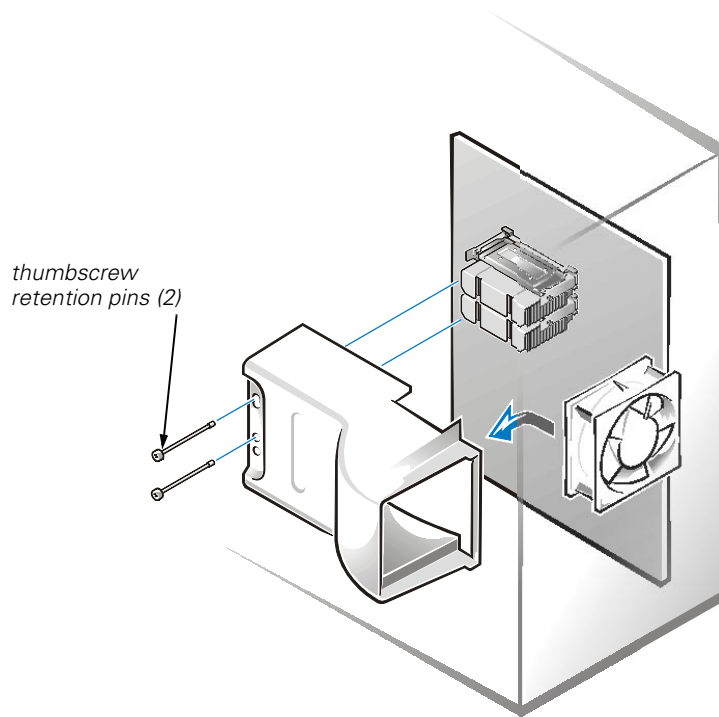

Figure 1-9. Removing the Cooling Shroud
3. Unscrew and remove the two retention pins (see Figure 1-9).